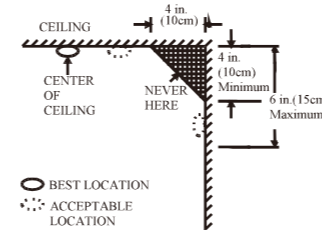

Figure 4: RECOMMENDED BEST AND ACCEPTABLE LOCATIONS TO MOUNT SMOKE ALARMS
- Install smoke alarms as close to the center of the ceiling as possible. If this is not practical, put the alarm on the ceiling, no closer than 4 inches (10 cm) from any wall or corner, as shown in Figure 4.
- If ceiling mounting is not possible and wall mounting is permitted by your local and state codes, put wall-mounted alarms between 4 and 6 inches (10-15 cm) from the ceiling, also see Figure 4.
- Dead air spaces are often at the top of a peaked roof, or in the corners between ceilings and walls. Dead air may prevent smoke from reaching an alarm. See Figures 4 and 5 for recommended mounting locations.